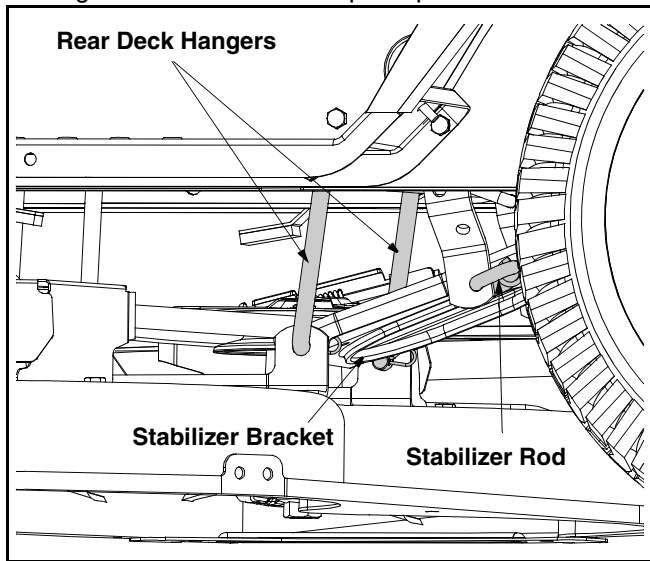

Figure 27
- Remove the hairpin clips which secure the rear deck hangers to the deck stabilizer bracket. See Figure 27. Retain the hairpin clips.
NOTE: For normal service and maintenance, the deck stabilizer bracket doesn't need to be removed from the tractor. If removing the cutting deck in order to mount a Snow Thrower attachment, however, the stabilizer bracket must be removed. To do so, simply remove the hairpin clip which secures the stabilizer rod to the stabilizer bracket. See Figure 27.